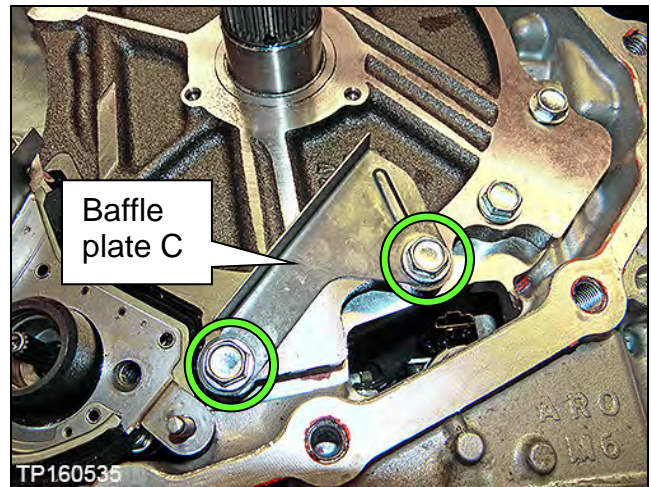

Figure 18C
- Remove the two bolts from baffle plate C, and then remove baffle plate C (Figure 18C).